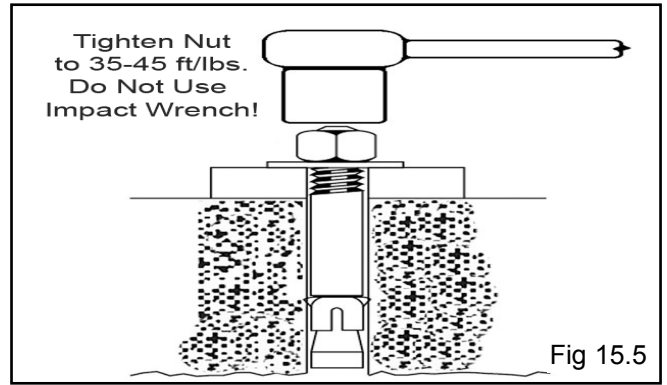

Fig 15.5
6. After any necessary shims are installed, tighten each nut to 35-45 ft./lbs. (See Fig. 15.5)